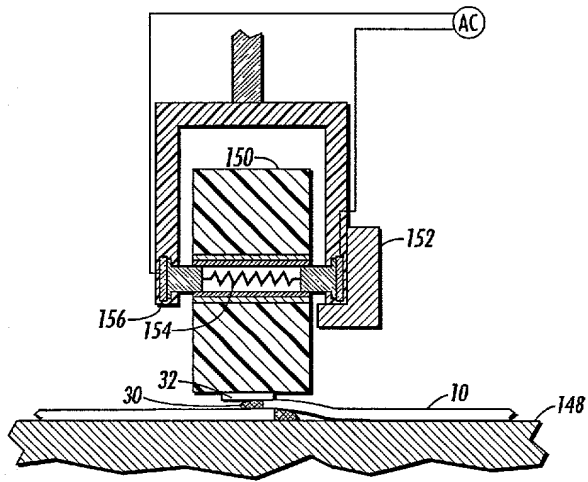

FIG. 6
FIG. 6 is a cross-sectional view of a mechanical assembly. A central vertical shaft passes through a housing. Inside the housing, a component labeled 150 is positioned. A spring (154) is located between component 150 and a lower component 156. A side component 152 is attached to the housing. The entire assembly is mounted on a base 10. A small component 32 is located at the base of the central shaft, and a larger component 30 is positioned below it. A label 148 points to the base 10. An AC power source is connected to the top of the central shaft.